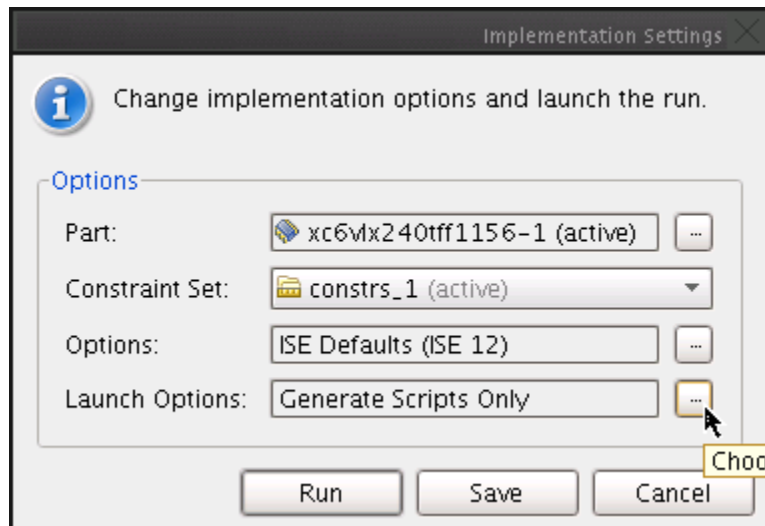

Figure 5: Launch Options
- In the Implementation Setting dialog box, open the Launch Options dialog box by clicking on the button next to current launch options, as shown in Figure 5.